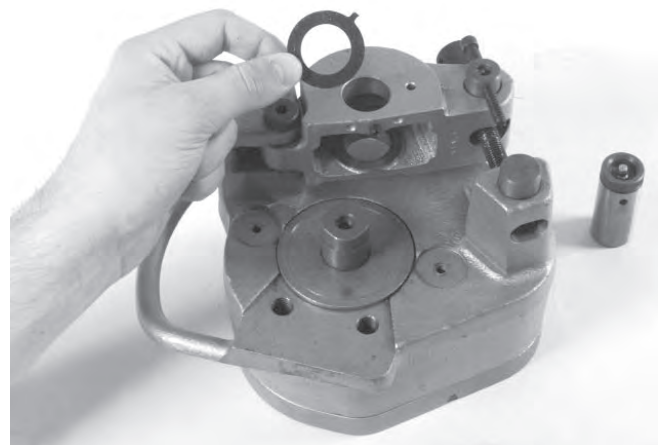

Figure 10 – Placement of Thrust Washer
1. Place the plain thrust washer at the back of the reaction arm slot. Place the tabbed thrust washer in the front of the reaction arm slot with the tab inserted in the small hole to the right of the groove roll shaft (Figure 10).